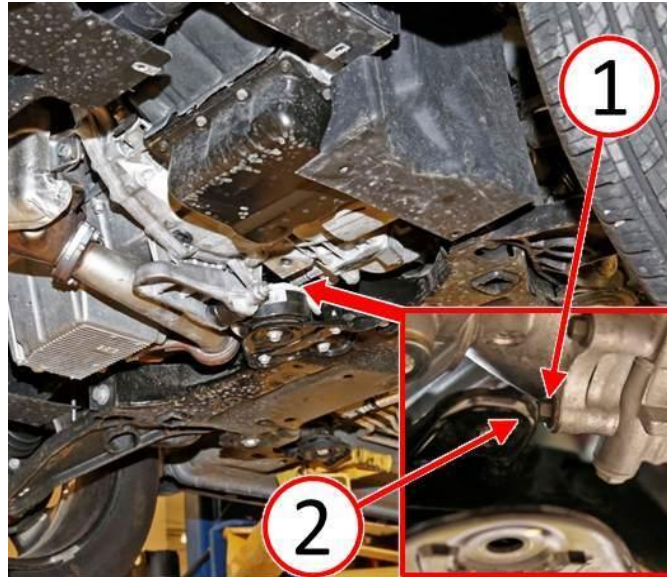

Fig. 2 Area Of Contact Concern
3. Inspect for evidence of contact between the Rear Engine Mount Bracket (2) and the fastener (1) on the PTU (Fig. 2). Is evidence of contact observed?
NOTE: Engine mount insulator is removed in (Fig. 2) close up image for clarity.